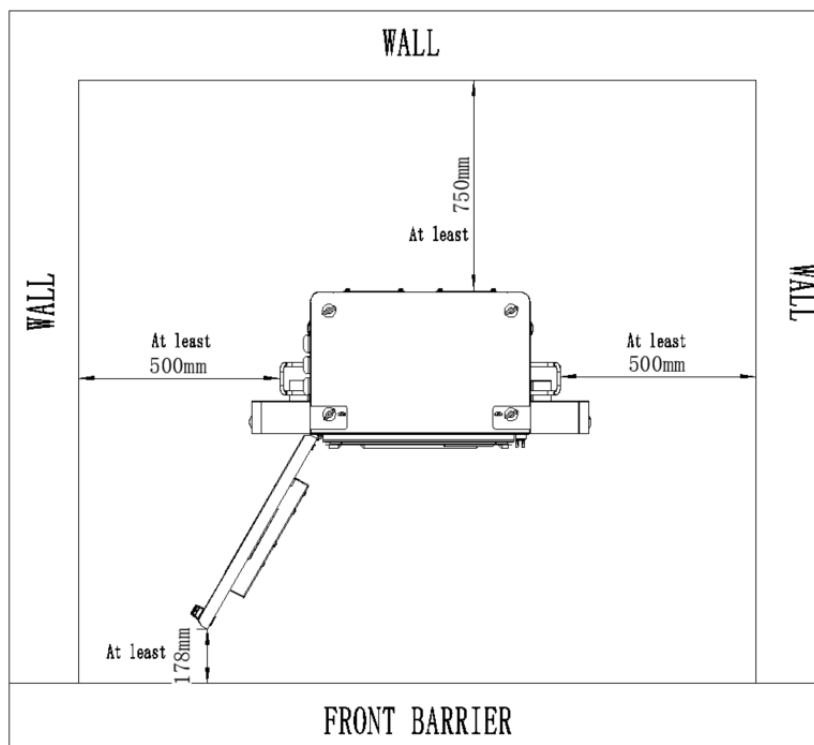

Figure 6 Schematic diagram of inspection distance of user unit
(2) The requirements for inspection distance of user unit are shown in Figure 6: